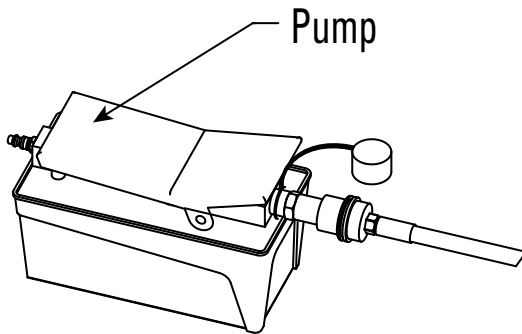

Figure 13
1. Raise the lift by pressing the pump portion of the pedal on the Lift Pump until the mainframe reaches the height where Tower Insert Plug can be inserted into the Mounting Port on the mainframe (approximately the height where the Safety Latch falls into the first Latch position) (see Figures 13 and 14).